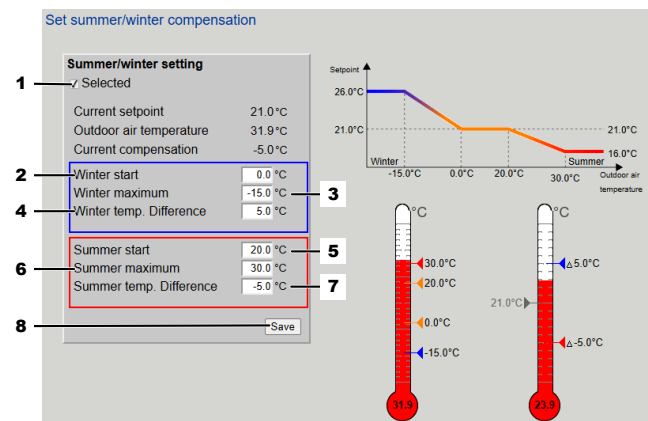

Fig. 30: Summer/winter compensation
The 'Set summer/winter compensation' screen ( Fig. 30 ) allows you to set temperature compensation values for summer and winter operation.
- Tick the checkbox ( Fig. 30 /1) to activate summer/winter compensation.
- Enter the outdoor air temperature for starting winter compensation ( Fig. 30 /2).
- Enter the outdoor air temperature for maximum winter compensation ( Fig. 30 /3).
- Enter the outdoor air temperature for starting summer compensation ( Fig. 30 /5).
- Enter the outdoor air temperature for maximum summer compensation ( Fig. 30 /6).
- Set the maximum winter compensation of the setpoint ( Fig. 30 /4).
- Set the maximum summer compensation of the setpoint ( Fig. 30 /7).
- Save the summer/winter compensation settings with the button ( Fig. 30 /8).